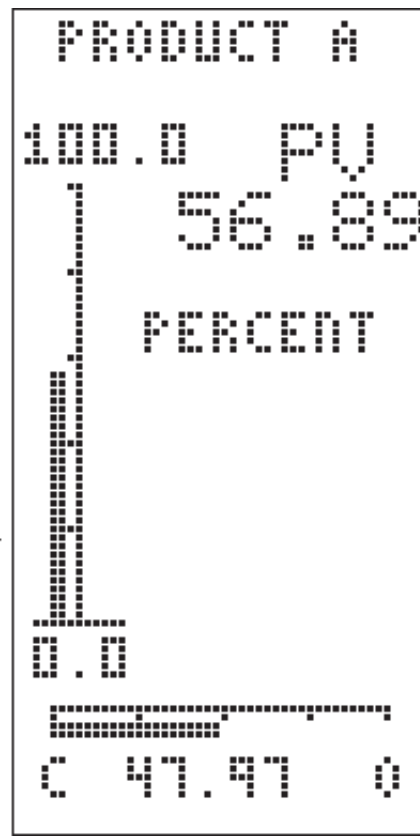

Figure 3. Vertical Bar graph Manual Loading Function with the analog input being indicated
Figure 3 (Channels 1 & 2) - Each display has a vertical bar graph for analog input process variable (PV) indication and a horizontal bar graph for analog output manual control. The vertical bar graph has a 50 segment axis and the horizontal bar graph has a 40 segment axis. The vertical bar graph has a numeric range (zero and span) and the horizontal axis has the forward /reverse valve indicators (C for close, O for open). An input channel tag name appears in the upper left corner of the display.